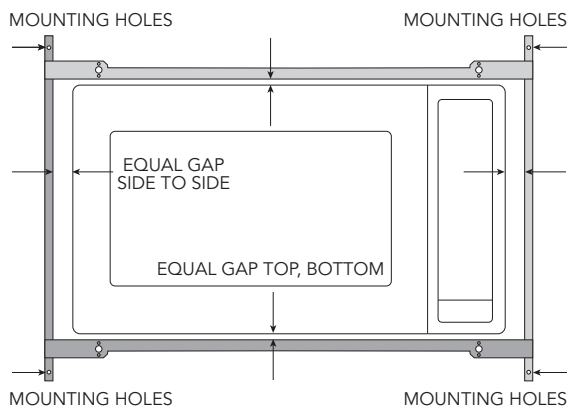

Figure 12
E. BACK FRAME INSTALLATION: Position back frame equal space top to bottom, side to side. Mark for 4 holes, center punch and pre-drill with 1/16" [1.45 mm] drill bit. Secure frame with 4 SCREWS (C). See Figure 12.